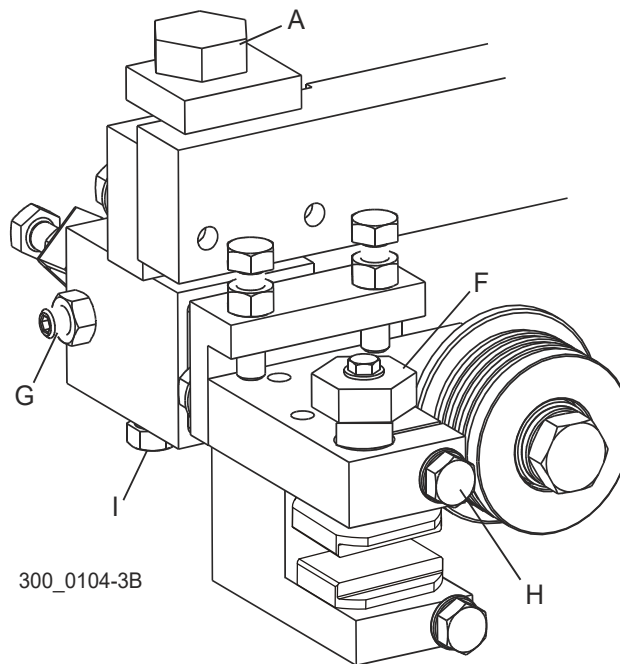

FIG. 3-17
See Figure 3-17. Standard Roller/Block Guides: Loosen clamp bolt (H) and turn the top guide block bolt (F) counterclockwise to raise the top guide block off the blade. Turn blade guide assembly bolt (A) counterclockwise to move the bottom guide block down off the blade. Check that the blade guide roller does not touch the blade. Loosen screws (G) and (I) and move the guide assembly back away from blade.